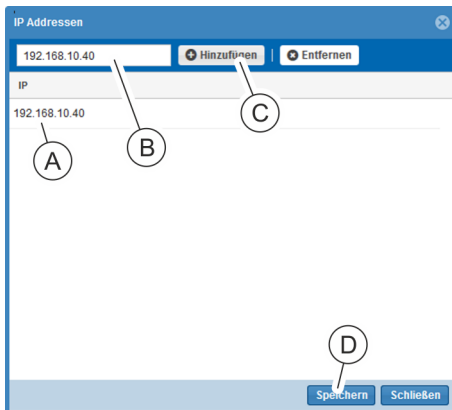

Fig. 59: "IP addresses" window
⇒ The “IP addresses” window opens (Fig. 59).
- 19. Enter an IP address in the text box (Fig. 59/ⓑ) and use the 'Add' button (Fig. 59/Ⓒ) to add it to the list (Fig. 59/Ⓐ).
- 20. After completing the entry, close the window using the 'Save' button (Fig. 59/ⓓ).